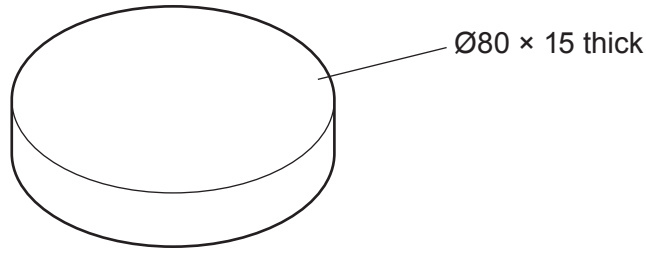

Fig. 11.6
- (e) Fig. 11.6 shows the basic shape of a wooden former that will be used when vacuum forming the pans.